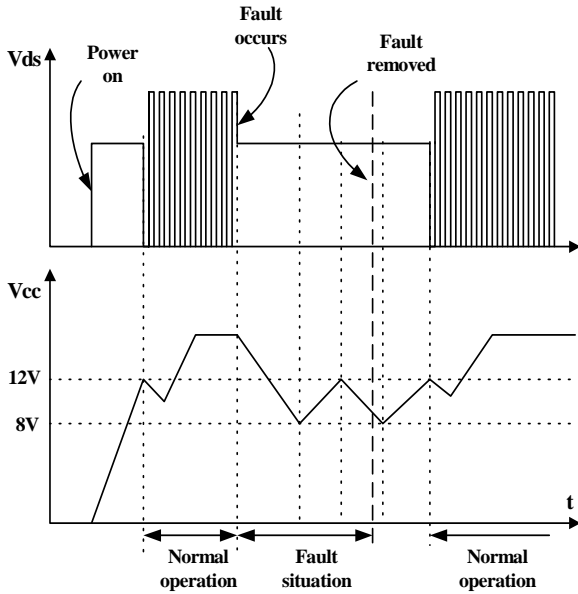

Figure 6. Auto restart operation
**3. Protection Circuit :** The FSDM0565R has several self protective functions such as over load protection (OLP), abnormal over current protection (AOCP), over voltage protection (OVP) and thermal shutdown (TSD). Because these protection circuits are fully integrated into the IC without external components, the reliability can be improved without increasing cost. Once the fault condition occurs, switching is terminated and the Sense FET remains off. This causes Vcc to fall. When Vcc reaches the UVLO stop voltage, 8V, the protection is reset and the internal high voltage current source charges the Vcc capacitor via the Vstr pin. When Vcc reaches the UVLO start voltage, 12V, the FPS™ resumes its normal operation. In this manner, the auto-restart can alternately enable and disable the switching of the power Sense FET until the fault condition is eliminated (see figure 6).